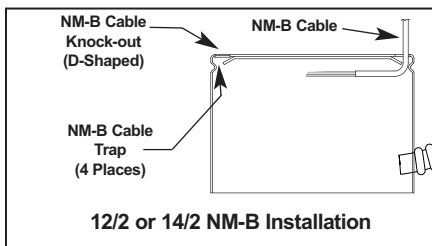

Figure 9
**12/2 or 14/2 Non-Metallic Sheathed Cable (Type NM-B).** Remove appropriate D-shaped cable knock-out(s). Insert the NM-B cable through the cable trap and make a 90° L-shaped bend in cable as shown (Fig. 9).